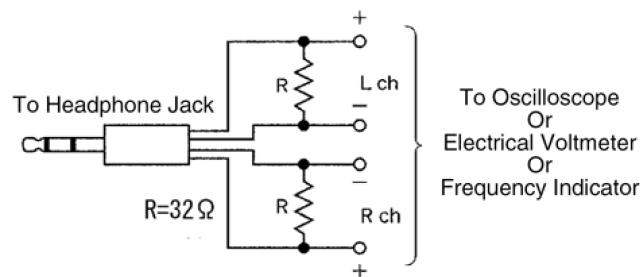

Fig. 8
- Headphone jack output jig (Cf. Fig. 8)
1. Apply [11.2 Disassembly of Side Panel (L) & (R) and 11.3 Disassembly of Top Cabinet Unit] under [11. Disassembly and Main Component Replacement Procedures].
3. Connect the headphone jack output jig (Cf. Fig. 8) to headphone jack.